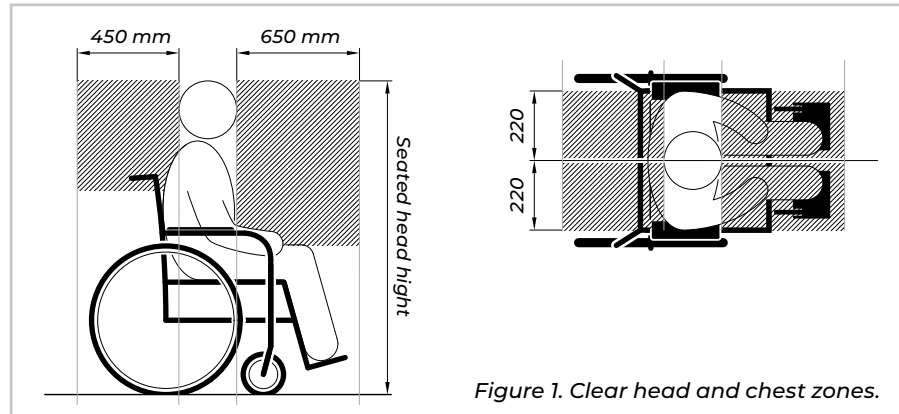

Figure 1. Clear head and chest zones.
- 2 Allow a clear zone of at least 450 mm behind, and 650 mm in front of the head of the wheelchair user (Figure 1). When positioning the wheelchair, take the location of the shoulder belt anchorage into account.